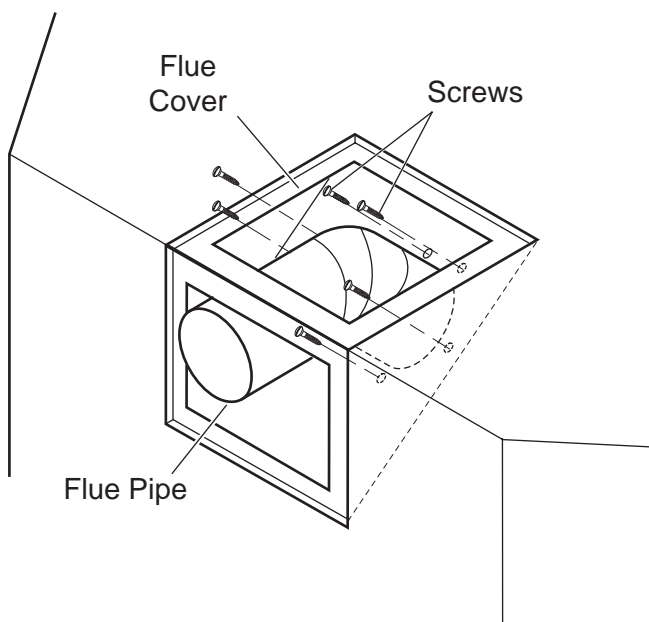

Figure 9 - Removing Flue Pipe
4. Remove the six (6) screws securing the flue pipe to the back of the intake box and remove the pipe and gasket. *See Figure 9.*